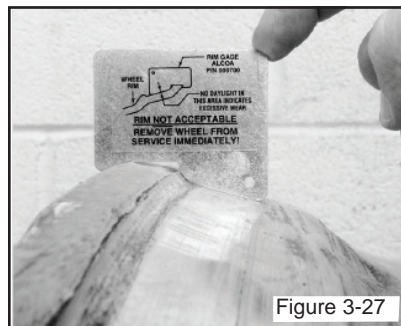
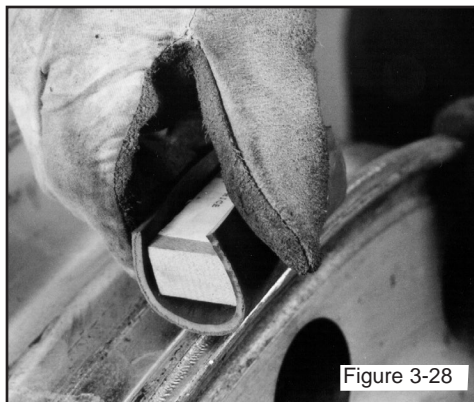

Figure 3-27
Figure 3-28
STEP 3. If the wheel is serviceable by the rim flange gauge, examine the wheel flange edge for sharpness by using a rubber sharpness gauge. These gauges are constructed with a section of tire or a suitable piece of rubber attached to a block of wood (Figure 3-27). By running the sharpness indicator gauge along the wheel in the area of the wear, determine if the wear is sharp enough to cut or damage the rubber on the sharpness indicator (Figure 3-28). If the rubber is cut, then follow the edge removal instructions below.
STEP 5. After the edge is removed, run the sharpness indicator gauge (Figure 3-27) along the flange where the sharp edge was removed to check for any remaining sharpness. If the rubber is still cut, perform the steps again to remove the sharp edge. Always remove the minimum amount of material necessary to eliminate the sharp edge.